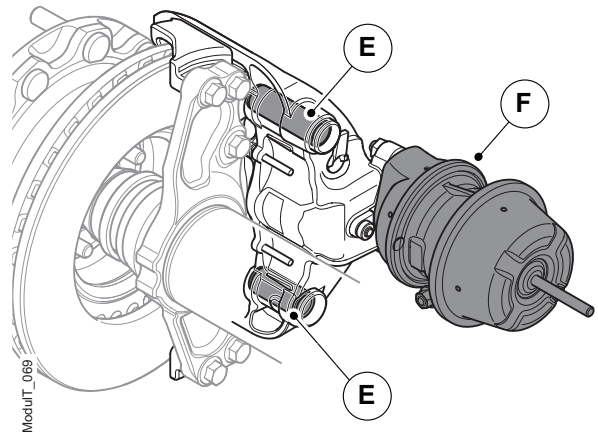

Figure 3. Slide pins and spring brake chamber
The calliper moves on slide pins (E), see figure 3. Where the disc brake also serves as a parking brake, the unit is actuated by a spring brake chamber (F).